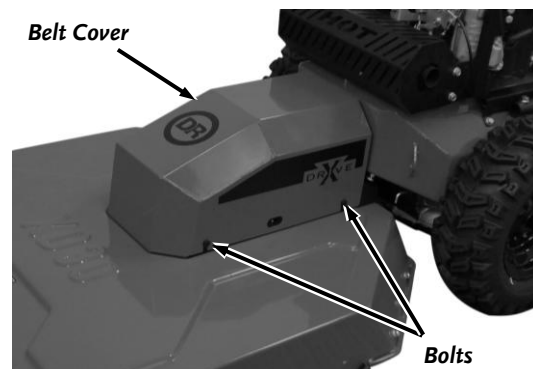

Figure 34
2. Loosen, but do not remove, the four Bolts that secure the Belt Cover using a 1/2" Wrench. Remove the Belt Cover (**Figure 34**).
11. Install the Belt Cover and tighten the four Bolts (**Figure 34**).